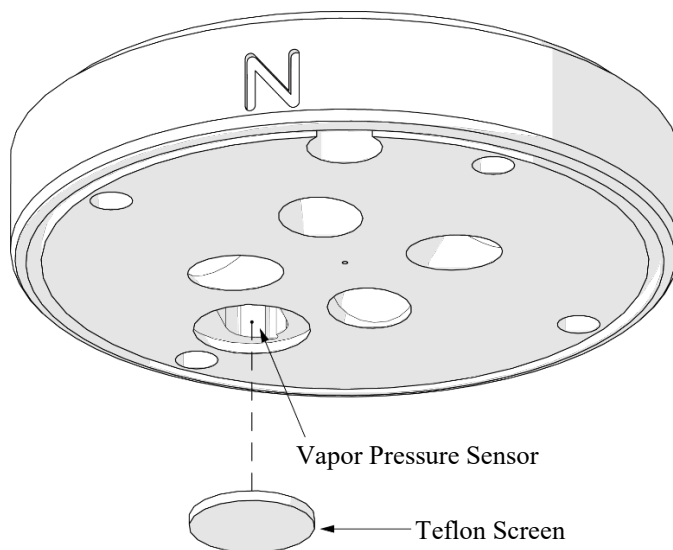

FIGURE 9-4. Teflon screen
4. Inspect the Teflon screen (FIGURE 9-4) and replace if dirty.
A field-replaceable module contains the barometric pressure and relative humidity sensors. This module is under the Teflon screen (FIGURE 9-4) and should be replaced every two years. Calibrate or replace the pyranometer every two years. The pyranometer calibration number needs to be changed when the funnel containing the pyranometer is replaced. Campbell Scientific will send a calibration certificate listing the new number with the recalibrated or replaced pyranometer. An extended SDI-12 command is used to replace the calibration number (Appendix D.2.10, *Extended Commands* (p. D-5)). Contact Campbell Scientific for more information.